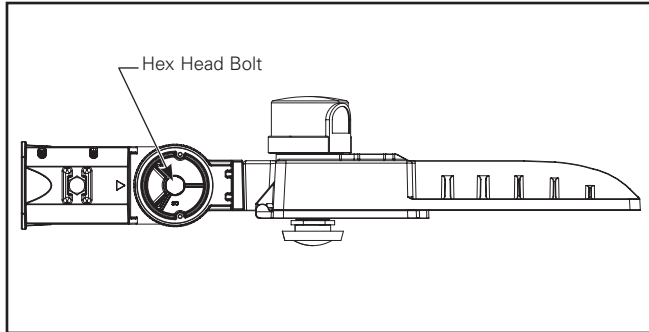

**Figure 3.**
2. Route wire leads from luminaire into the slipfitter and install slipfitter onto luminaire. Secure with two Allen screws. Tighten to 30 in-lbs. (Figure 3.)